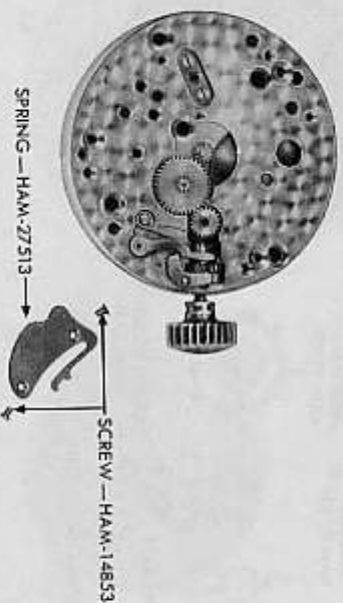

Figure 120 — Hamilton Wrist Watch — Setting Cap Spring Removed
- i. Remove Setting Cap Spring (fig. 120). Invert movement on movement block and remove setting cap spring screw and setting cap spring.
g. **Replace Setting Cap Spring (fig. 120).** Replace setting cap spring, positioning the spring end behind setting lever stud. Replace screws and secure. At this point, an examination must be made to check freedom of the train. This is done by turning the crown one full turn and allowing the train to rotate; if wheels of the train backlash on reaching the end of the winding, train has perfect freedom. If they slow down or stop abruptly, a bind exists and must be corrected.